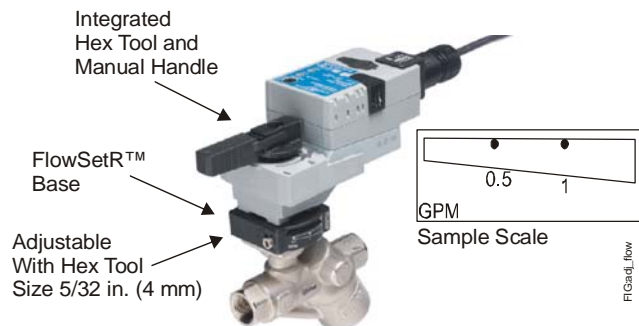

Figure 2: Adjustment of FlowSetR Base
2. Use the integrated hex tool in the actuator manual adjustment handle or a 5/32 in. (4 mm) hex to turn the adjustment screw to the desired flow setting as displayed on the indicator scale on the FlowSetR base and as shown in Figure 2. Do not use any powered drivers to turn the adjustment screw.